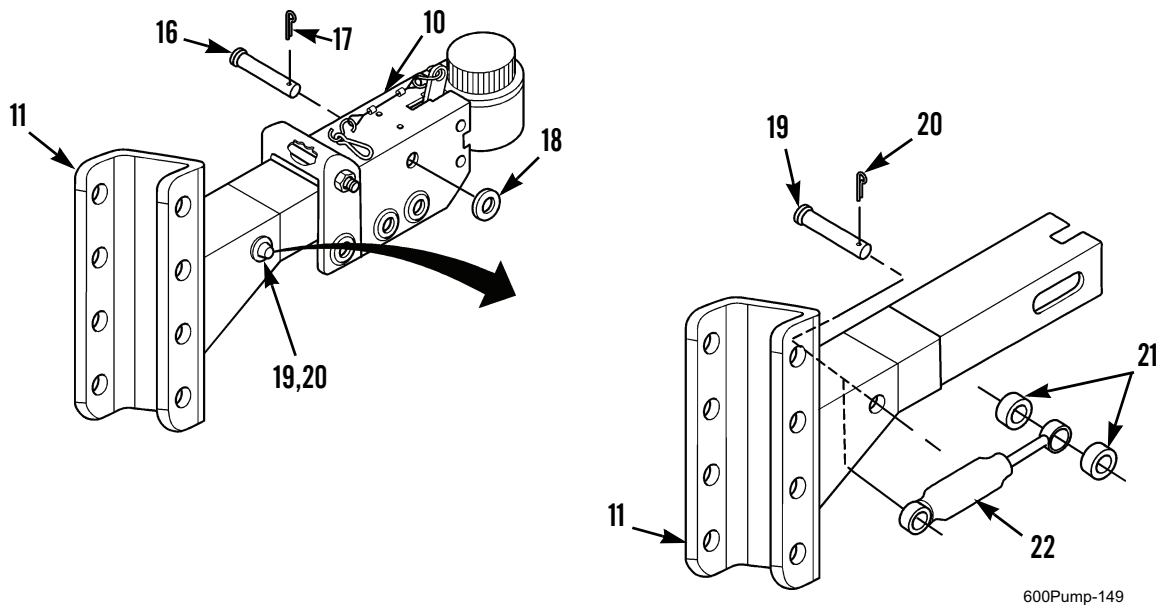

Figure 3. Actuator Bracket and Damper Inside Actuator Housing.
1. Remove cotter pin (Figure 3, Item 17) from master pin (Figure 3, Item 16). Remove washer (Figure 3, Item 18) and master pin from actuator housing (Figure 3, Item 10) and actuator bracket (Figure 3, Item 11). Discard cotter pin.
2. Remove actuator bracket (Figure 3, Item 11) with damper (Figure 3, Item 22) attached from actuator housing (Figure 3, Item 10). Remove two master pin rollers (Figure 3, Item 21).
3. Remove cotter pin (Figure 3, Item 20) from damper pin (Figure 3, Item 19). Remove damper pin and damper (Figure 3, Item 22) from actuator bracket (Figure 3, Item 11). Discard cotter pin.